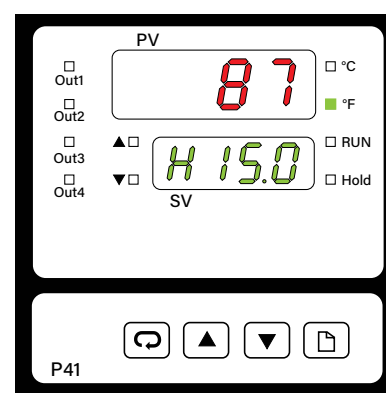

Figure 23
4. The lower green display will show the percentage (%) output to the gas valve from the controller. (Example: *H 15.0* means 15%). Use the UP or DOWN arrows to change the percentage of gas going to the main burners. (See **Figure 23**).